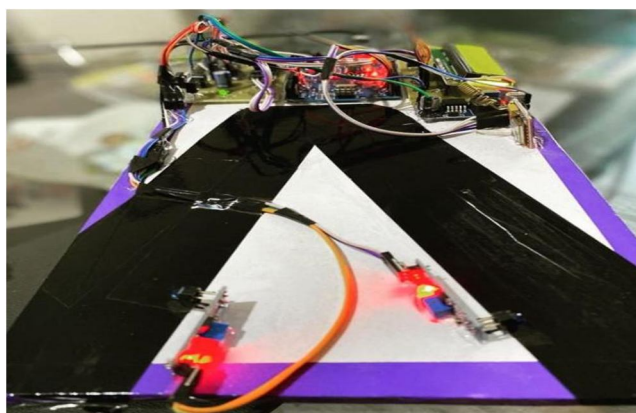

Fig 5. Circuit connection having sensor, arduino, GSM.
- 2) *STEP 2:* The fig 5 shows the circuit connection of hardware which involves sensors, lcd, buzzer, GSM. the sensors senses the object and it is been processed further by microcontroller.